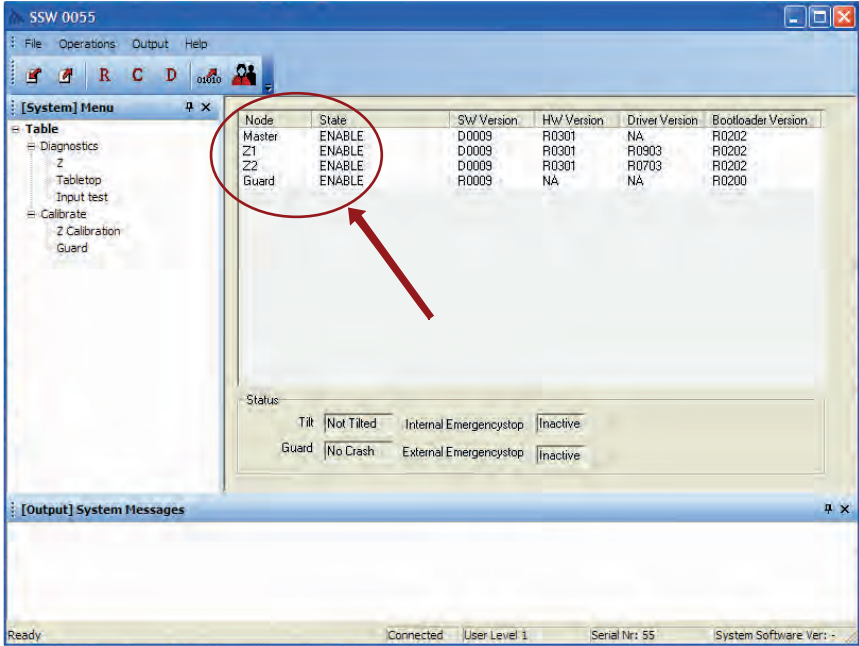

Fig. 5-154 SSW 0055
9. Verify that all nodes are in enable state, see Fig. 5-154 *SSW 0055*.